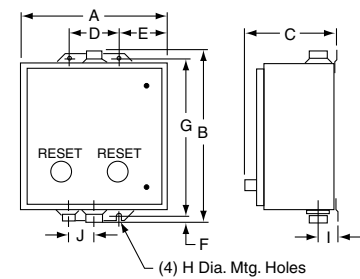

Figure 1:
**Table 17.78: NEMA Type 1 Enclosure, Figure 1**